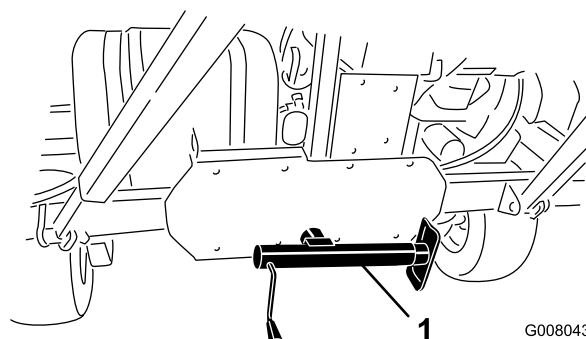

Figure 17
4. Lower the jack to the ground to stabilize the machine (Figure 17).